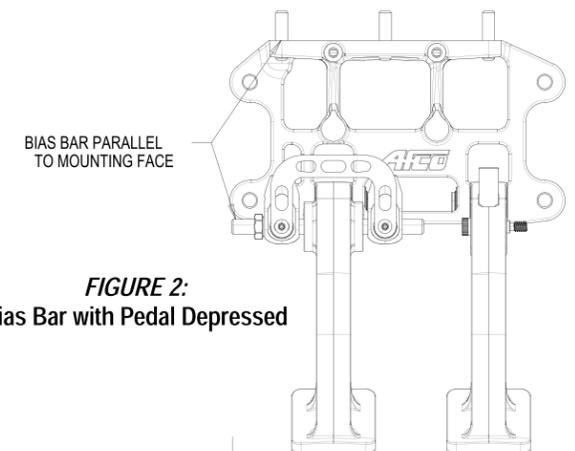

FIGURE 2:
4. The bias rod should now be square with the pedal mount when the pedal is depressed. When the pedal is relaxed, the bias bar may or may not be at an angle. Ensuring the bias bar is square under compression will engage the front and rear brakes simultaneously. Refer to Figure 2.
Check that firm pedal and full brake engagement occurs before the pedal passes the lowest point of its "downswing". If the pedal crosses the imaginary vertical centerline before full engagement occurs then the mechanical advantage lessens and pedal feel will be affected. Refer to Figure 2 for clarification.